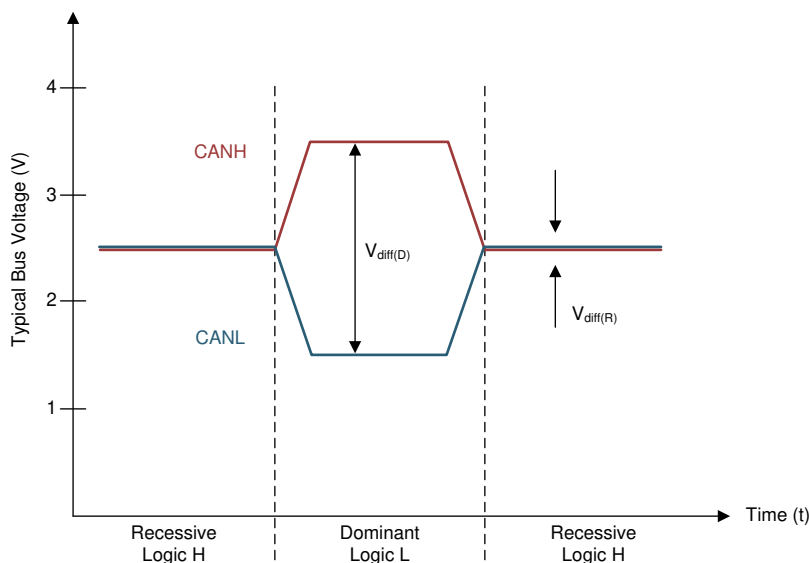
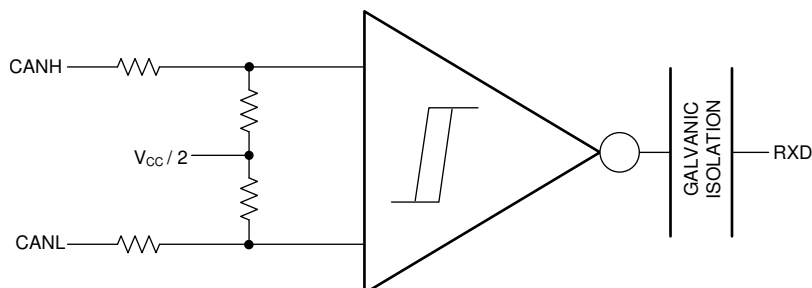

Figure 7-1. Bus States (Physical Bit Representation)
Figure 7-2. Simplified Recessive Common Mode Bias and Receiver
The CAN bus has two states during operation: *dominant* and *recessive*. A dominant bus state, equivalent to logic low, is when the bus is driven differentially by a driver. A recessive bus state is when the bus is biased to a common mode of $V_{\text{CC}} / 2$ through the high-resistance internal input resistors of the receiver, equivalent to a logic high. The host microprocessor of the CAN node uses the TXD pin to drive the bus and receives data from the bus on the RXD pin. See Figure 7-1 and Figure 7-2.
- (1) H = high level, L = low-level, Z = common mode (recessive) bias to $V_{CC} / 2$. See Figure 7-1 and Figure 7-2 for bus state and common mode bias information.